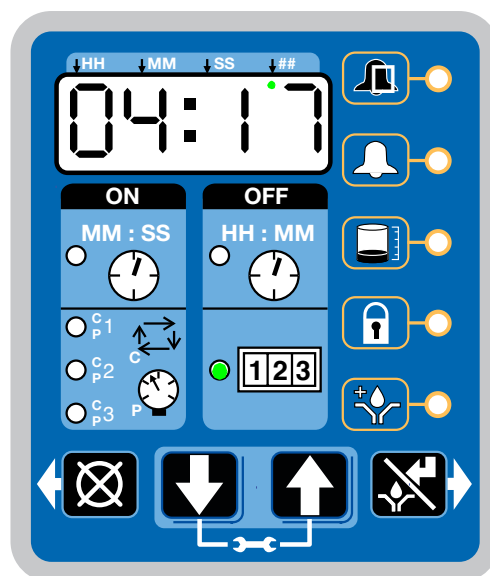

FIG. 54
- The LED next to 1-2-3 illuminates (FIG. 54).
The example shown in FIG. 54 shows 4 hours and 17 minutes remaining until a fault or lubrication mode (pump ON) occurs.